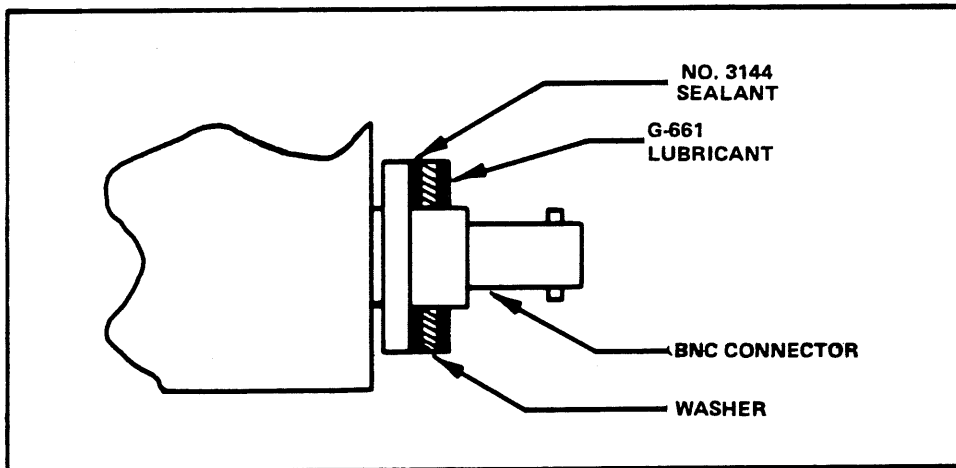

Figure. 6. Detail of BNC Connector and Washer.
STEP 10. Bonding of washer to BNC type connector that is located on the Main Circuit Board Assembly (see Figure 6)**A. CONNECTOR, RECEPTACLE**
- (1) 1502 TPN 131-1097-00, MPL Item 2-125.
- (2) 1503 TPN 131-1691-00, MPL Item 2-170.